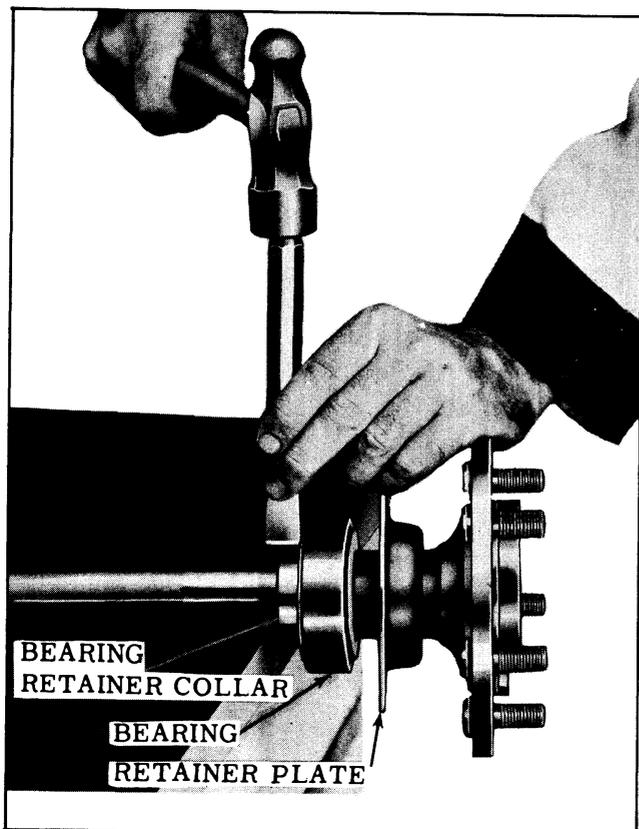

Fig. 6-8 Removing Wheel Bearing Retainer
1. Remove bearing retainer collar after splitting with cold chisel as shown in Fig. 6-8. Do not damage axle shaft.